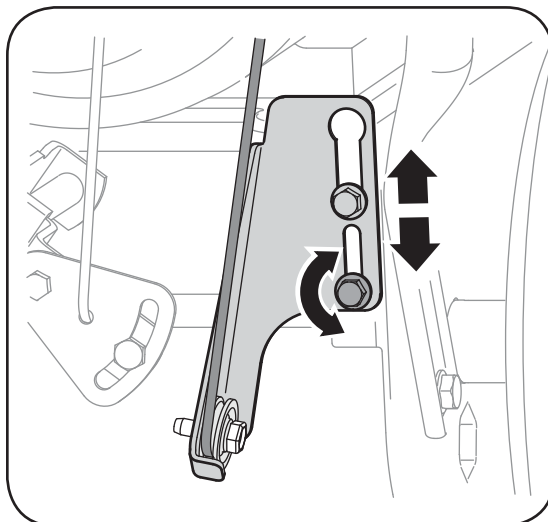

Figure 5-3
5. Loosen the lower hex nut on the drive cable bracket. See Figure 5-3.
3. With the drive control engaged, the friction wheel must contact the drive pulley. See Figure 5-3.
4. If adjustment is necessary, loosen the lower hex nut on the drive cable index bracket and pivot the bracket upward or downward as necessary. Refer to Figure 5-3. Tighten the lower hex nut to secure the bracket when correct adjustment is reached.